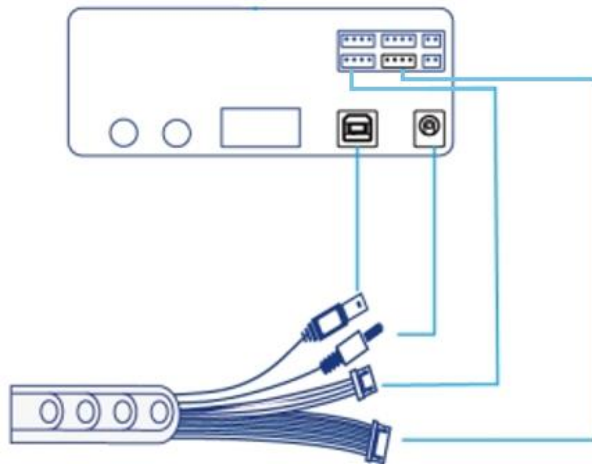

Figure 5.34 Connect to Dobot Magician
**Step 4** Connect the interfaces on the end of the wire set to Dobot Magician, as shown in Figure 5.34.